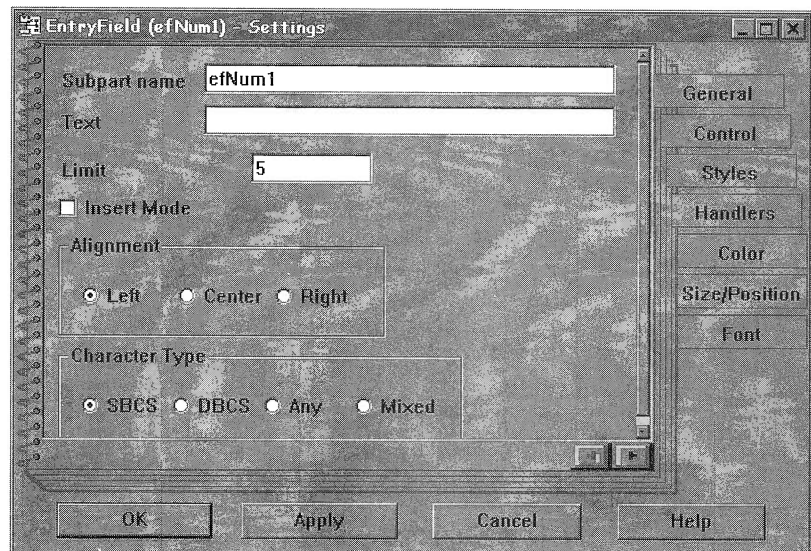

Figure 47: Restricting the number of characters in an entry field
- ❑ On the General page, enter the number 5 in the limit entry field; this restricts the number of characters that can be typed to 5 as shown in Figure 47.